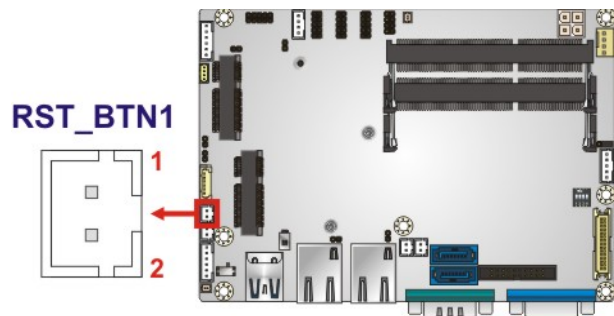

Figure 3-20: Reset Button Connector Location
- CN Location:** See Figure 3-20